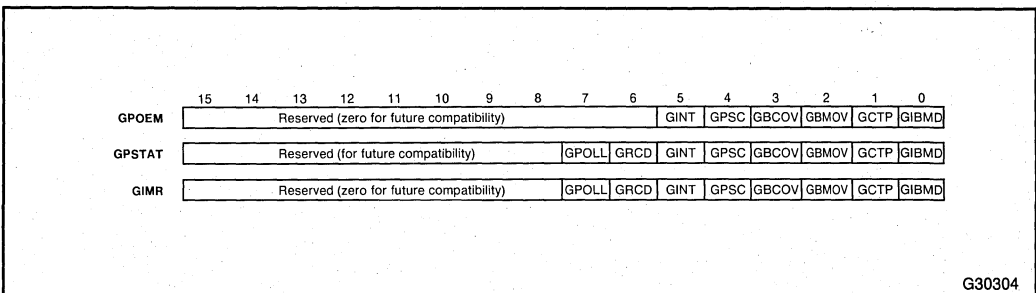

Figure 2-8. GP Registers Used in Exception Handling
The Interrupt Mask GIMR has 8 bits corresponding to the GSTAT bits: GPOLL, GRCD, GINT, GPSC, GBCOV, GBMOV, GCTP, and GIBMD (see Figure 2-8 and Table 2-3 in Section 2.2.1.1 “Graphics Processor Status Register (GSTAT).” The GP generates an interrupt when any bit in the GIMR with a value of zero corresponds to a set bit in GSTAT. Another interrupt is not generated if the previous interrupt has not been acknowledged. Reading GSTAT and the BIU Control Register serves as an Interrupt Acknowledge to the GP; the interrupt and status bits not masked out by the Interrupt Mask are cleared. If the GPOLL bit causes the interrupt, it is not cleared on an Interrupt Acknowledge. However, this does not generate repeated interrupts.
- Any of the six GPOEM bits corresponding to set GSTAT bits GINT, GPSC, GBCOV, GBMOV, GCTP, or GIBMD have a value of zero. Refer to Figure 2-8 and Table 2-3 in Section 2.2.1.1 “Graphics Processor Status Register (GSTAT).”